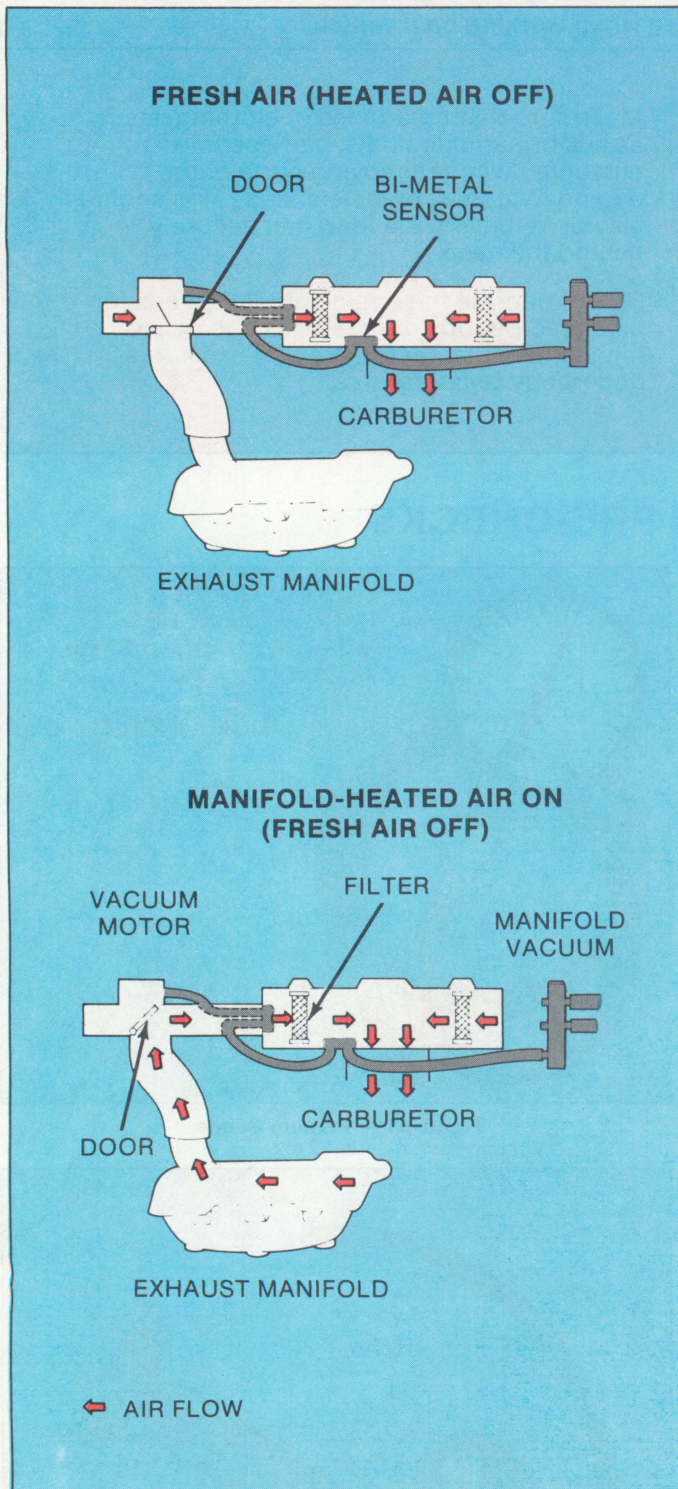

Figure 63 — Heated Air Intake Door Positions
1. **Engine Cold and Not Running** — The air inlet door should be in the "Fresh Air, Heat-Off" position (Figure 63, top). If it is not, check for:
- Plugged bi-metal sensor (Figure 63, top).
2. **Engine Cold Running at Idle** — The air door should be in the "Heat-On" position (Figure 63, bottom). If not, check for:
2. Check the air door position. It should be in "Heat-Off" position (Figure 63, top).
- Motor stem should pull the air door to the "Heat-On" position (Figure 63, bottom).